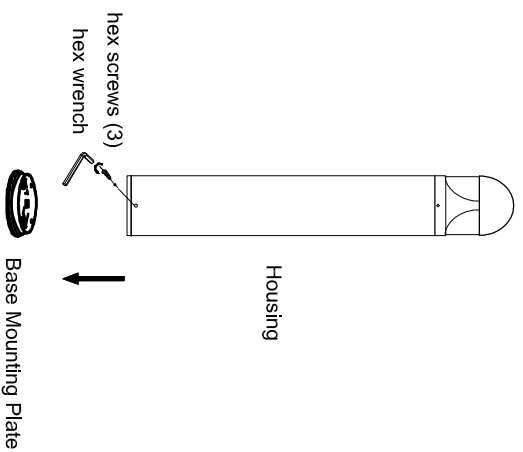

Figure 4
- Figure 4 - Using hex wrench provided, remove three hex screws from mounting plate at bottom of bollard fixture housing. Remove base mounting plate from housing.